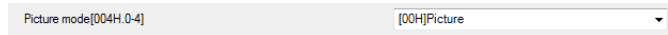

Figure 29
1. Picture Mode Setting (Figure 29)